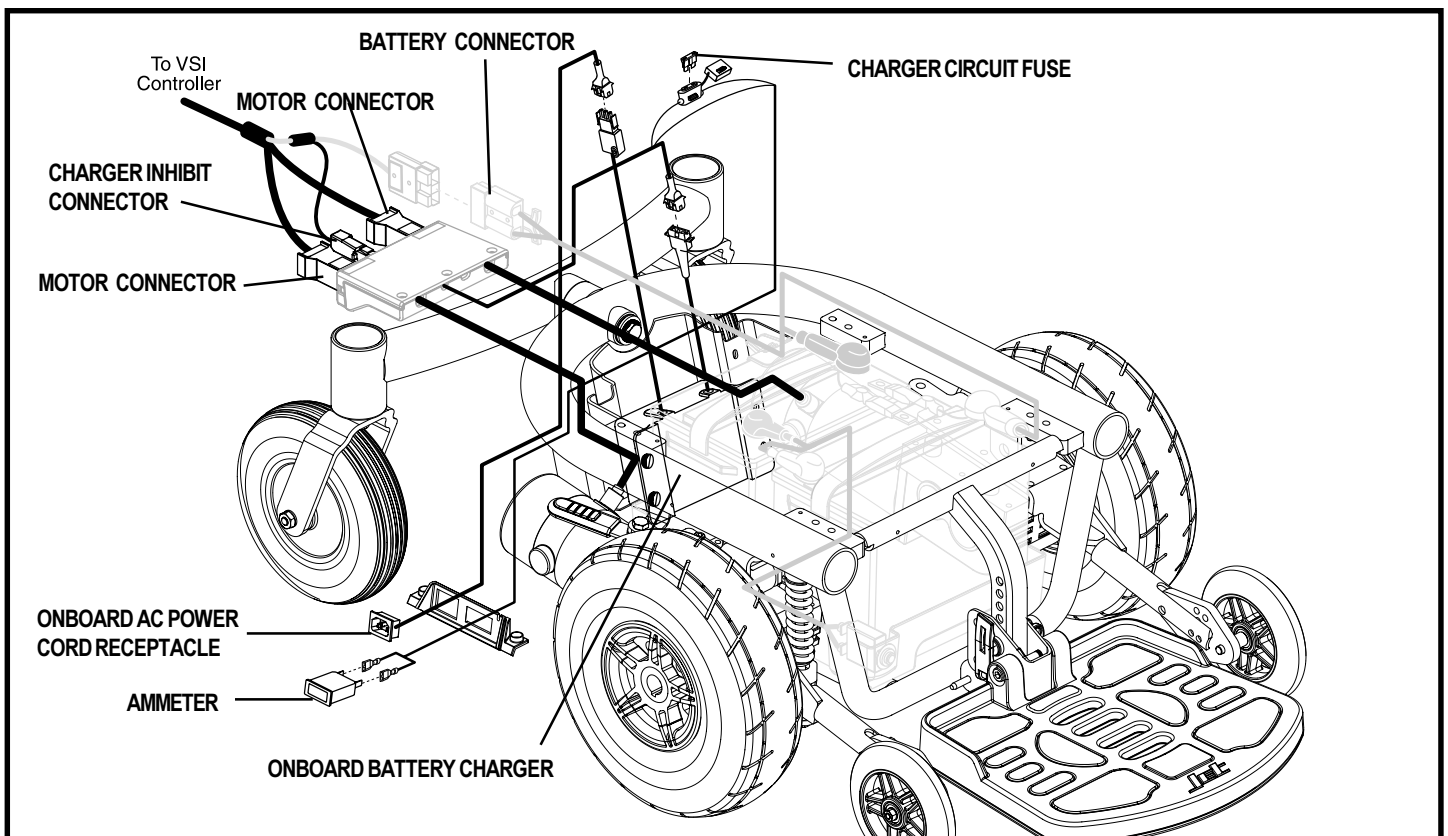

Figure 6. Jet 10 Ultra Electrical Components
The electrical components are located on the power base. The ammeter and the onboard AC power cord receptacle are located on the right side of the power base. The main circuit breaker is located on the front of the battery tray. The controller connector and the motor connectors are located on the power pod, inside the power base. See figure 6.
**Battery Connector:** This is where the controller connects to the batteries. See figures 6 and 26.
8. Plug the motor connectors, the charger inhibit connector, and the battery connector into the power pod. See figure 6.
3. Disconnect the controller from the power pod. See figure 6.